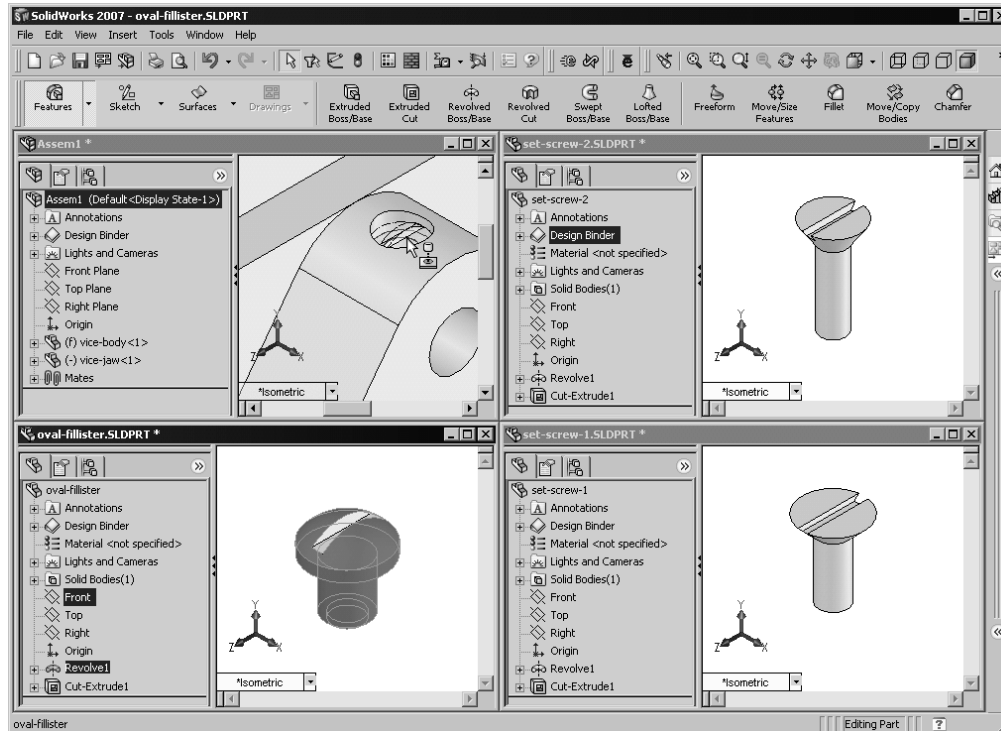

Figure 12-74 Dragging the Oval Fillisters in the assembly using feature-based mates
3. Select the **Revolve1** feature from the **FeatureManager Design Tree** of the Oval Fillister part document. Drag the cursor to place the component in the assembly, as shown in Figure 12-74.